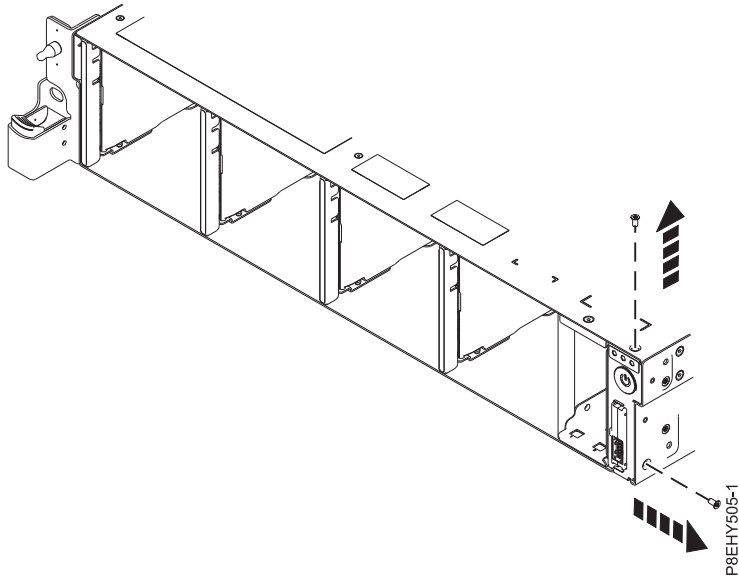

Figure 105. Remove the top and side screws
8. Remove the top and side screws from the power switch. See Figure 105 on page 89.